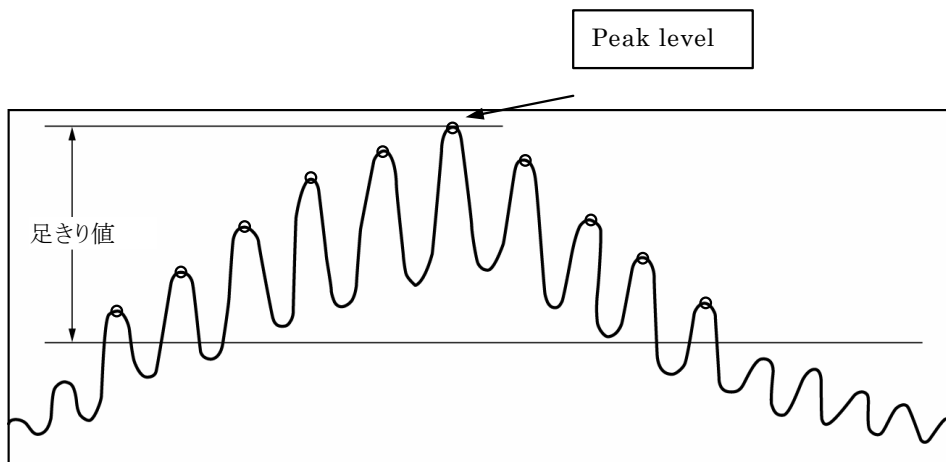

Fig. 8-11: PEAK RMS Analysis
- ① Take out the data points exceeding the limit value TH, as shown in the Fig 8-11, within the displayed waveform, and find the spectrum width by the following calculation.